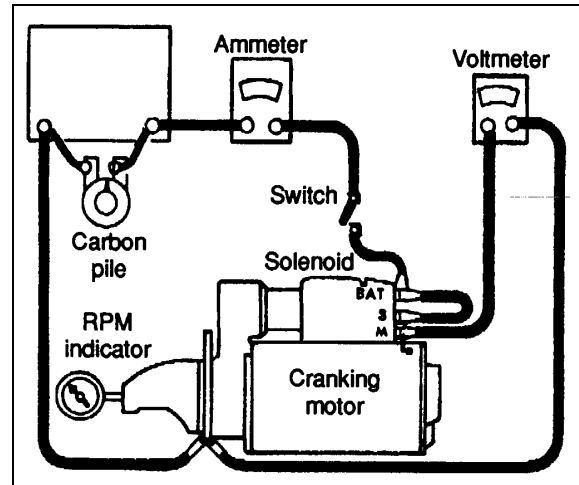

FIGURE 38: STARTING MOTOR TEST CONNECTIONS
Before disassembly of the starting motor, the following check of starting motor operation should be done to determine any condition which may require special attention during overhaul. Make test connections to the starting motor as in figure 38.
Connect the starting motor in series with fully charged batteries to give 24 volts, an ammeter capable of reading several hundred amperes, and a variable resistance. Also connect a voltmeter as illustrated in figure 38 from the solenoid motor (M) terminal to the starter frame. An rpm indicator is necessary to measure armature speed. Proper voltage can be obtained by varying the resistance unit.